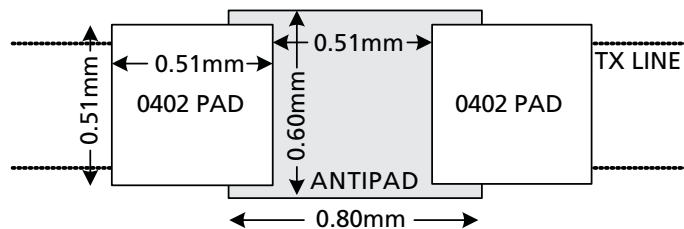
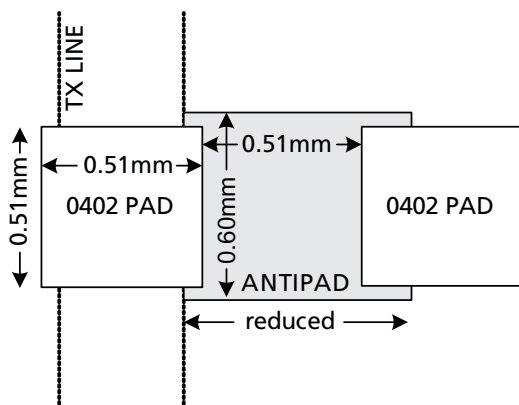
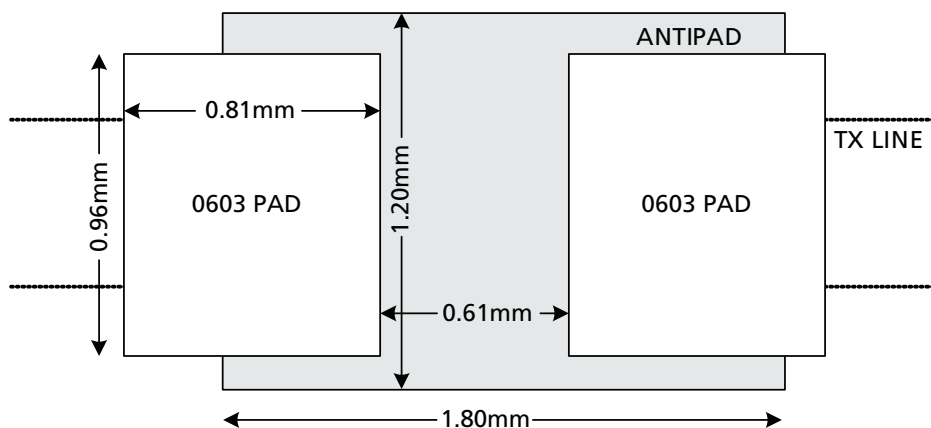

Figure 2-1: Series 0402 Component Antipad optimized for 50Ω traces
Figure 2-2: Shunt 0402 Component Antipad optimized for 50Ω traces
Figure 2-3: Series 0603 Component Antipad optimized for 50Ω traces
- If passive components are used on the high-speed transmission lines, then antipads are recommended to deal with transmission line component parasitics. The antipad sizes used on the evaluation board are given in Figure 2-1, Figure 2-2 and Figure 2-3. These antipad sizes are specific to this design, which uses a FR-4 dielectric with a 10mil thickness between the top routing layer and the associated GND layer. NOTE: Antipads are defined as the absence of copper in the underlying GND and PWR plane layers. As well, there should be no routing on any routing layer underneath the antipads